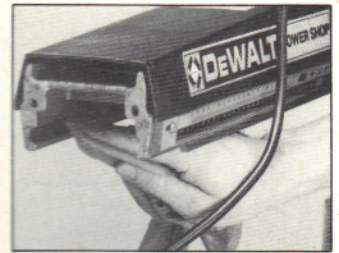

Fig. 21
- (iii) With a clean, dry cloth wipe the arm tracks along their entire length to remove all dust and grease (Fig. 21).